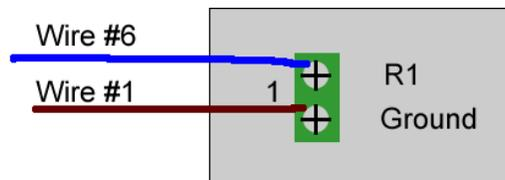

Fig 1. Wire connections for two-position MX Series II Modules. Wire colors may vary.
- (1) When the logic state is changed to OPEN, (HIGH or OFF), the valve will rotate to position 1. When the logic state is changed to CLOSED, (LOW, ON, or GROUND), the valve will rotate to position 2.
- (2) Wire the interface cable to the instrument for 1 line control (see fig 1)
- (3) See page 12 for 1-line level logic generic time programming example. (Note- the actual programming will vary depending on the manufacturer of the instrument used. Hookup documents for selected instruments are available at [http://www.rheodyne.com/support/.](http://www.rheodyne.com/support/))